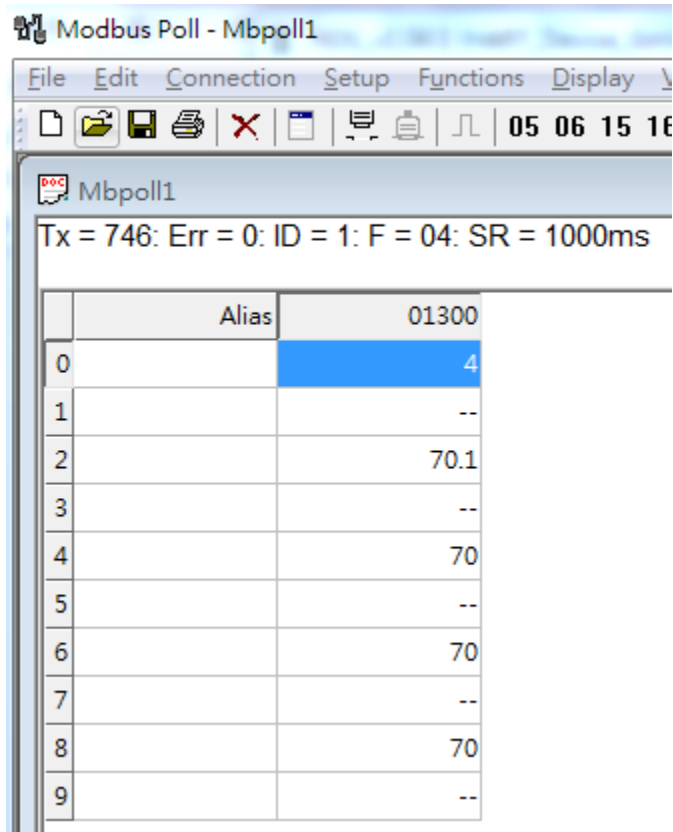

Figure 3-12 The CMD(3) data of HART device
<9> The CMD(3) data of HART device is shown like Figure 3-12.